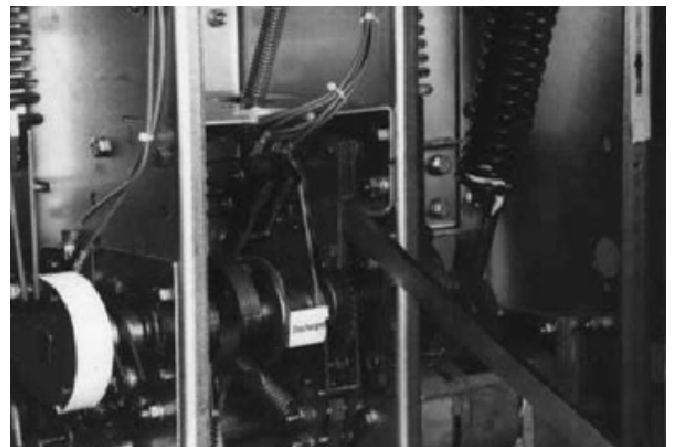

Figure 6-11 Manually Charging Closing Springs
Step 7 - Charge the closing springs with the maintenance tool. Continue charging the closing springs until a "click" is heard and the status indicator shows "**Charged**" (Figure 6-11).